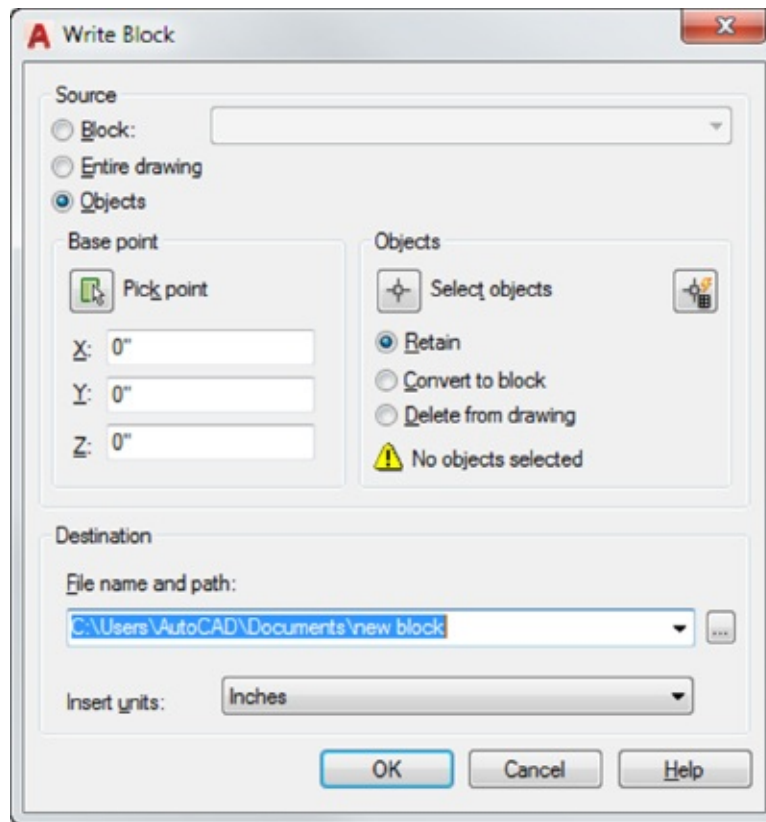

FIGURE 4.10 The Write Block dialog box
1. Issue the Wblock command by typing **Wblock** ↵, or use the keyboard shortcut by typing **W** ↵. This opens the Write Block dialog box (see Figure 4.10).